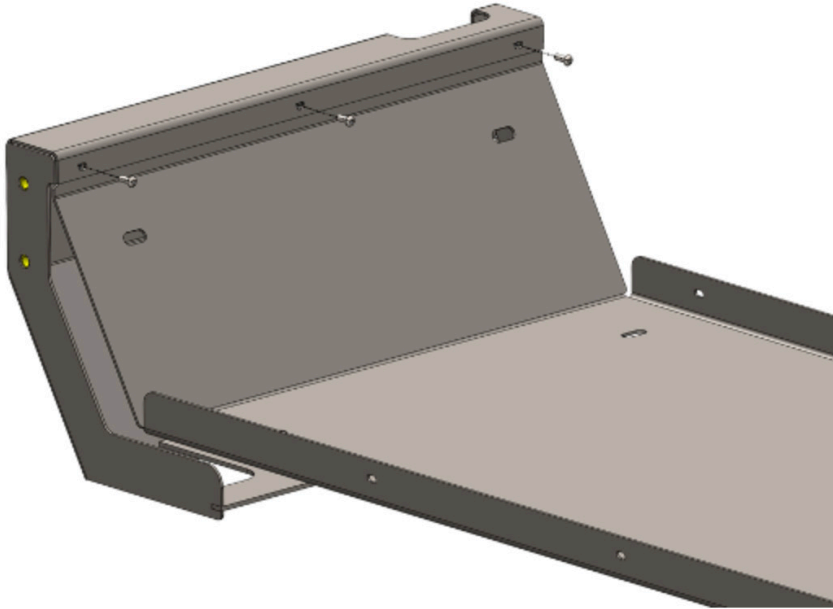

Figure 5
6. Assemble the bed pan (22787) to the sides of the bed (22784 and 22785) using six (6) of the provided M6 button head bolts. Figure 5.